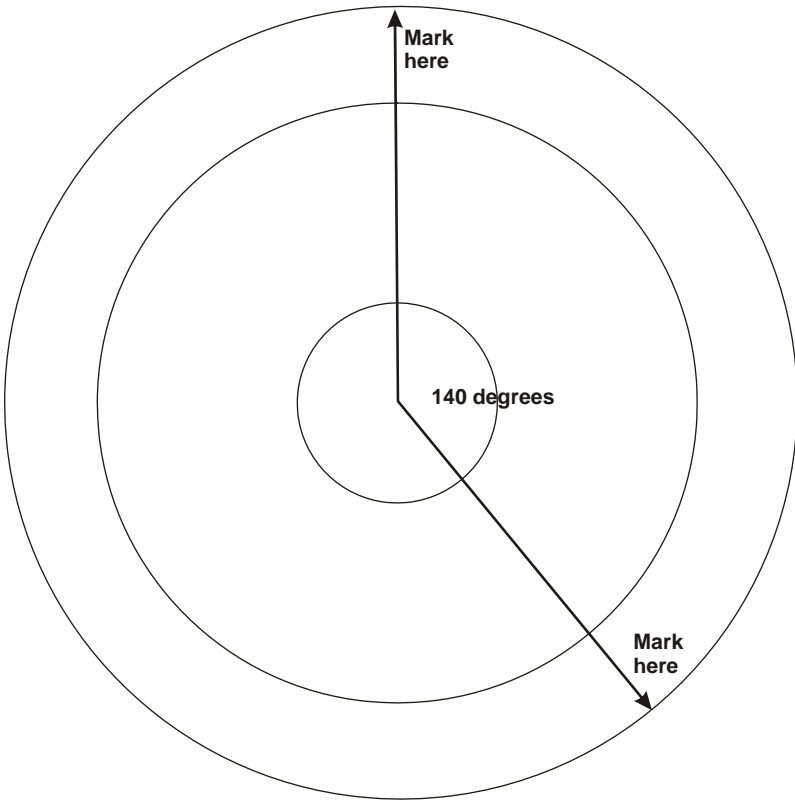

Figure 5.1
- Place the degree marking gauge (Figure 5.1) on the VR pulley and mark the pulley (using a marker pen) at both points to indicate an angle of 140 degrees. Torque the crankshaft bolt to the 140 degree mark.